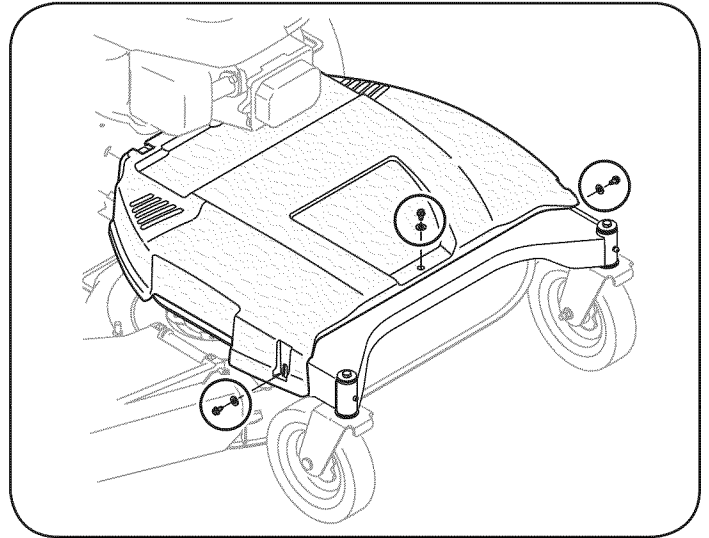

Figure 22
- Remove the belt cover by removing the three screws and washers which secure it to the frame. See Figure 22.